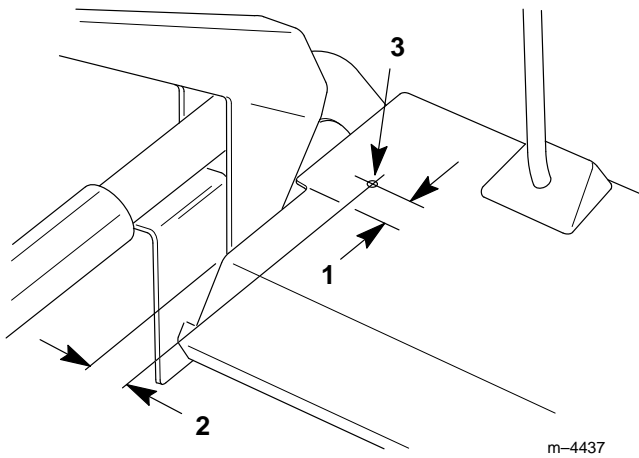

Figure 12
- Drill a 16 mm (5/8") diameter hole in the control panel, located as illustrated in Figure 12.